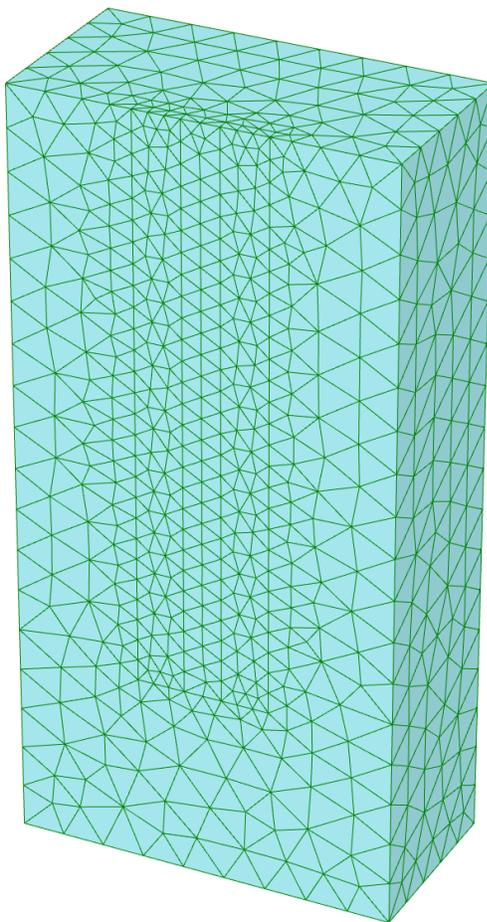

Figure 53: The generated mesh
5.  Click the **View mesh** button to inspect the generated mesh (See Figure 53 (on page 77)).